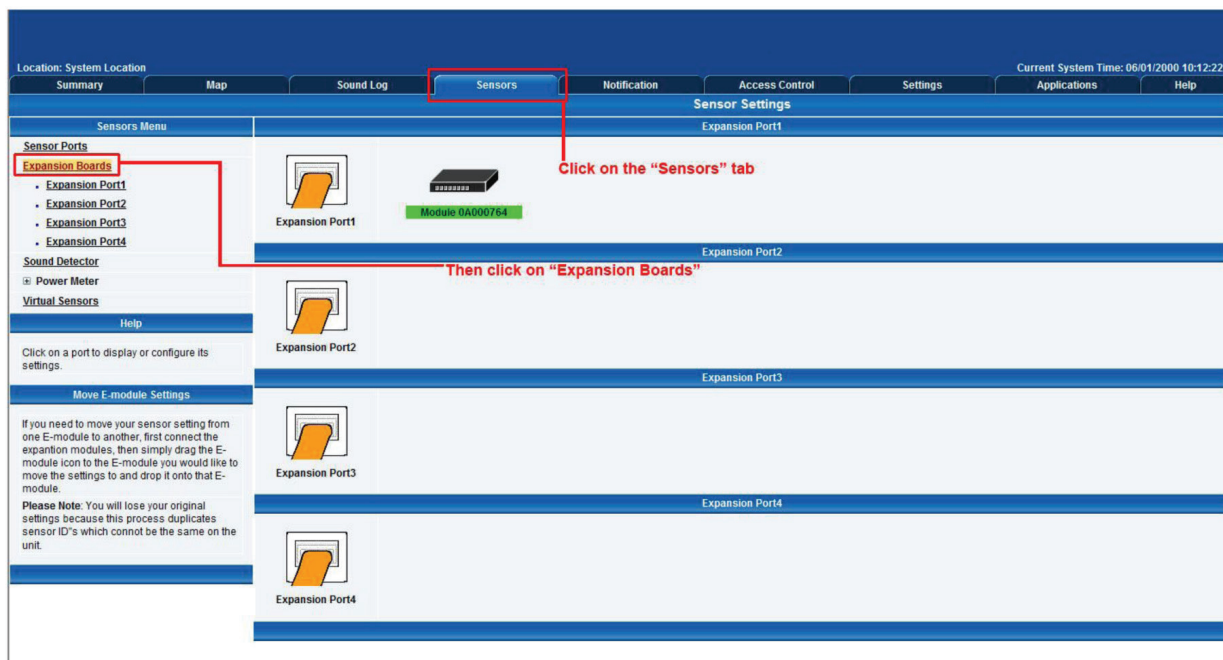

Figure 3-51. Sensors tab, extended port option.
2. From the summary page, navigate to the "Sensors" tab. Then click "Extended port" as outlined in Figure 3-51.